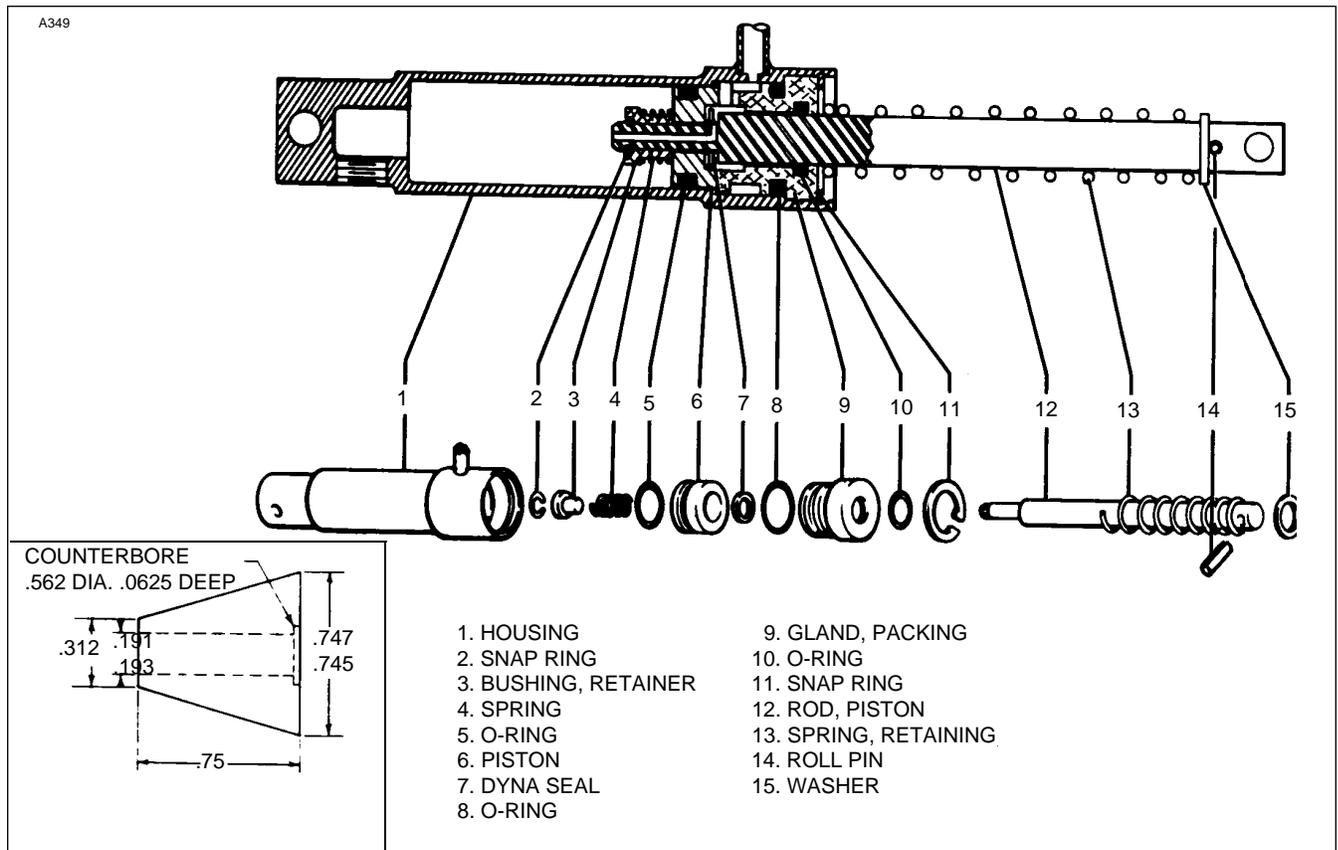

Figure 7-13. Brake Master Cylinder (Hand/Parking Brake)
**7-36. DISASSEMBLY OF BRAKE MASTER CYLINDER.** (Refer to Figure 7-13.)
- b. To disassemble the cylinder, first remove the piston rod assembly by removing the snap ring (11) from the annular slot at the rod end of the cylinder. Draw the piston rod assembly from the cylinder.
- c. The piston rod assembly may be disassembled by first removing the small snap ring (2) securing the retainer bushing (3), spring (4), piston (6), seal (7), gland (9), and, if desired, the large return spring (13).
**7-38. ASSEMBLY OF BRAKE MASTER CYLINDER.** (Refer to Figure 7-13.)
- a. Install new O-rings on the inside and outside of the packing gland (9) and on the outside of the piston (6). (When installing teflon O-ring (5) on piston, it is recommended that it be installed with the use of a cone placed against the piston. The cone may be constructed of plastic or metal, from dimensions shown in Figure 7-13.)
- b. To assemble the piston rod assembly, install the following parts on the rod (12) in order, the roll pin (14), return spring retainer washer (15), return spring (13), packing gland (9) with new O-rings, seal (10), piston (6) with new O-ring, spring (4) and retainer bushing (3). Secure these pieces with the small snap ring (2) on the end of the rod.
- c. Insert the piston rod assembly in the cylinder (1) and secure the packing gland with snap ring(11)